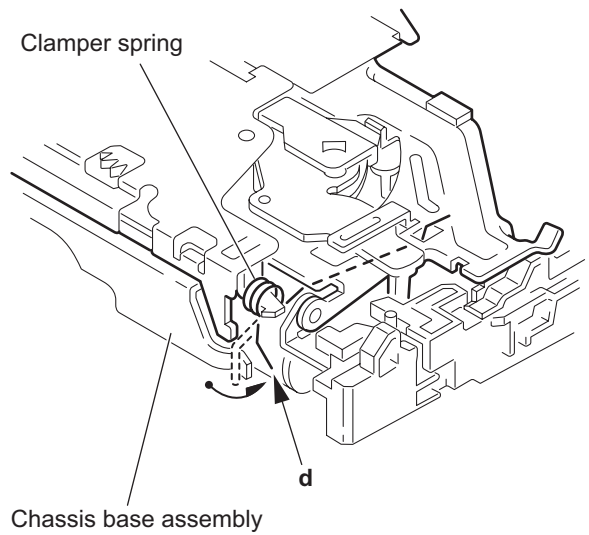

Fig.7
- (2) Release the part **d** of the clamber spring from the bending part of the chassis base assembly. (See Fig.7.)
- (3) Move the part **d** of the clamber spring to the outside of the bending part of the chassis base assembly. (See Fig.7.)